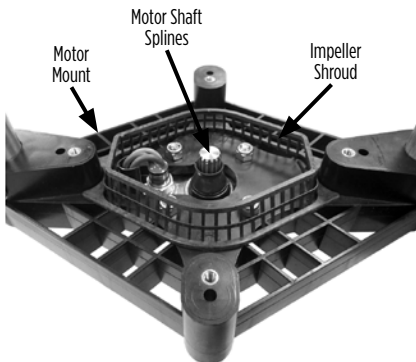

Figure 6
- Position impeller shroud on motor mount as shown. No fasteners are required (Figure 6).
- Align the splines of impeller to splines of motor shaft (Figures 6 and 7), and push the entire assembly down onto the motor shaft (after activation the impeller will seat itself to the correct location on the motor shaft) (Figure 8).